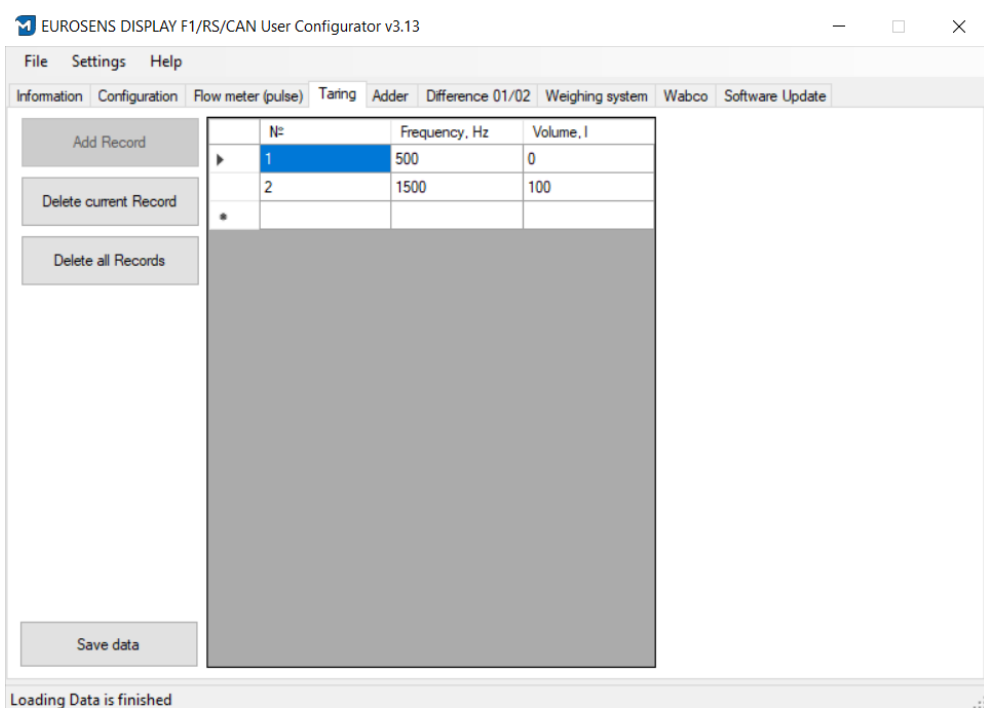

fig. 4.23. Calibration table, mode "Level sensor (frequency)"
- 6) On the basis of the received data fill in the calibration table (fig. 4.23).